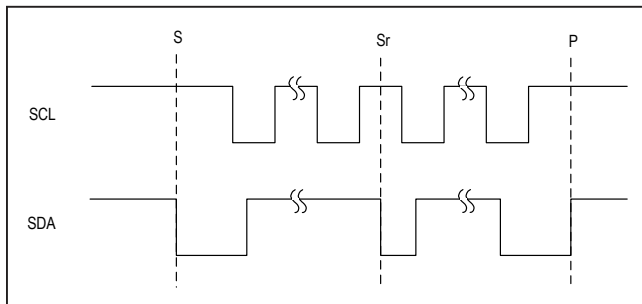

Figure 15. I2C START, STOP, and REPEATED START Conditions
When writing to the MAX20345 using I2C, the master sends a START condition (S) followed by the MAX20345 I2C address. After the address, the master sends the register address of the register that is to be programmed. The master then ends communication by issuing a STOP condition (P) to relinquish control of the bus, or a REPEATED START condition (Sr) to communicate to another I2C slave. See Figure 15.